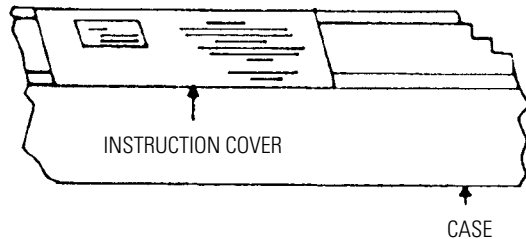

FIGURE 1
3. Remove instruction cover plate (Fig. 1). Do not remove wrapping paper until screen is installed.